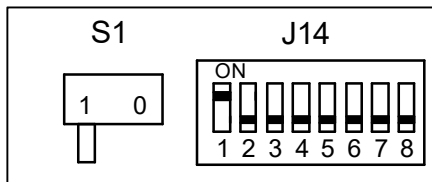

Figure 8 – Positions of the S1 and J14 switches
2. Set the S1 and J14 switches on the control unit as follows (figure 8/9):